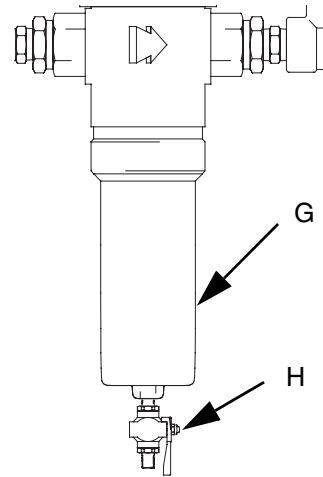

FIG. 5
- Drain the filter (11) using the drain valve (H). See FIG. 5.
- Remove the filter cover (G) and clean the screen located within.
- Replace the filter, screen, and filter cover (G). Be sure to lubricate threads when assembling.
- Close the drain valve (H).